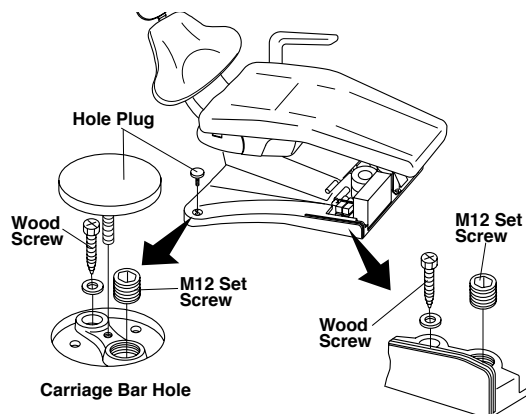

Fig.6-25a Fixing Base on Floor
(3) Fixing the Base to the Floor
- After checking the chair position, fix the base on the floor with 4 x wood screws. **(Fig.6-25a)**
- Fit 4 x M12 set screws (Level adjuster screws) in to the base plate. The chair level can be adjusted with the leveling screws. **(Fig.6-25a)**
- Fix the hole plugs in the carriage bar holes on the base. **(Fig.6-25a).**